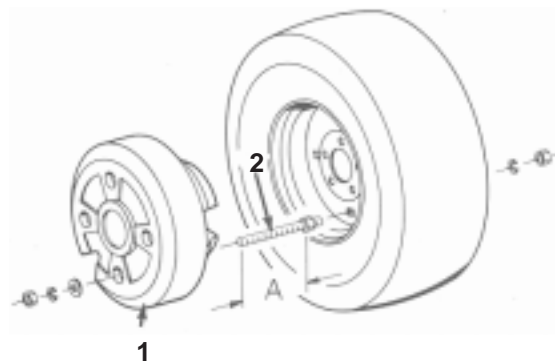

Figure 21
2. Add 3-7/8" to measurement attained. This becomes dimension "A" in figure 21.
4. Insert threaded rods through 2 opposite holes in rim and secure in place with 1/2" lockwashers and hex nuts (Fig. 21).
5. Place wheel weight over ends of threaded rods and secure in place with flatwashers, lockwashers and hex nuts (Fig. 21). Do not overtighten hex nuts or damage to the plastic housing of the weight may occur.